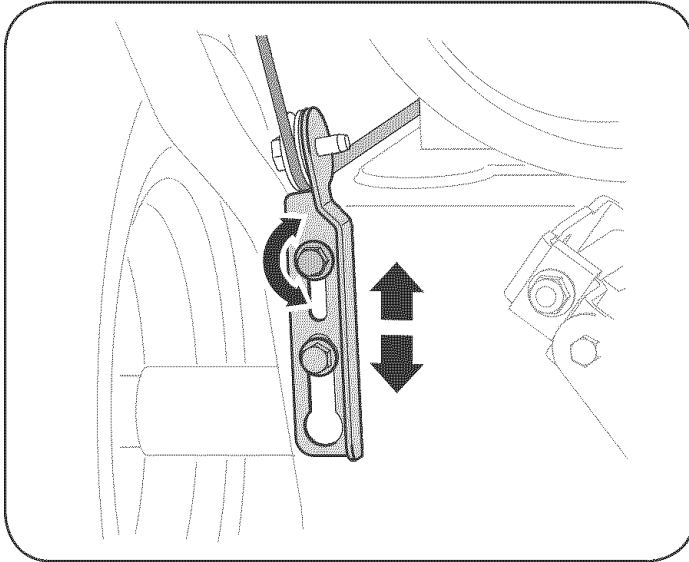

Figure 9
5. Allow the auger to remain engaged for approximately ten (10) seconds before releasing the auger control. Repeat this several times.
8. Position the bracket upward to provide more slack (or downward to increase cable tension). See Figure 9.